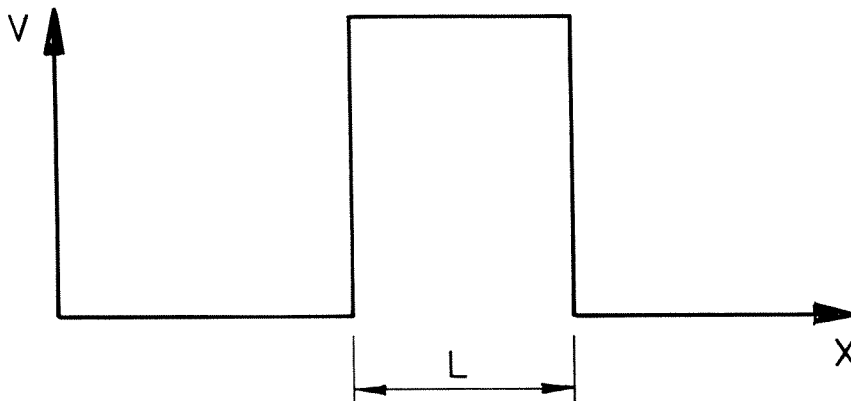

Fig. 7
- (d) Write down the form of the wavefunction in each of the three regions of (c) shown in Fig. 7 for an electron approaching from the left. Without detailed mathematics, describe how the transmission probability varies with width L , giving an estimate of the length for the transmission probability to fall by a factor of e^2 . Explain how these wave properties would affect the design of very high speed Field Effect Transistors. [8]